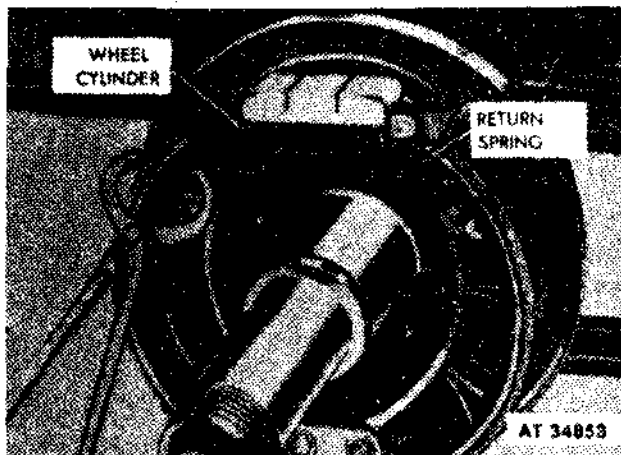

Figure 2-185. Removing brakeshoe return spring.
(4) Unhook the return spring (fig. 2-185) from one of the brakeshoes.
(5) Remove the two wheel cylinder capscrews (fig. 2-178) and lockwashers from the back side of the backing plate assembly, and remove the wheel cylinder (fig. 2-185) with its cover from the front side of the backing plate.
(1) Position the wheel cylinder (fig. 2-185) with its cover on the front side of the backing plate assembly, install the two wheel cylinder capscrews (fig. 2-178) with lockwashers in the holes at the back side of the backing plate, and tighten the capscrews.
(2) Install the return spring (fig. 2-185) between the brakeshoes.
(1) Remove the wheel and tire assembly (para 2-207).
(2) Remove the hub and drum assembly (para 2-210).
(3) Install the clamp over the ends of the wheel cylinder to hold the wheel cylinder pistons in position.
(4) Unhook the return spring (fig. 2-185) from both brakeshoes.
(6) Install the return spring (fig. 2-185) between the brakeshoes, and remove the clamp from the ends of the wheel cylinder.
(7) Install the hub and drum assembly (para 2-210).
(8) Bleed the wheel cylinder (para 2-190a).
(9) Adjust the brakes, using major adjustment procedures (para 2-189a(3)).
(10) Install wheel and tire assembly (para 2-207).